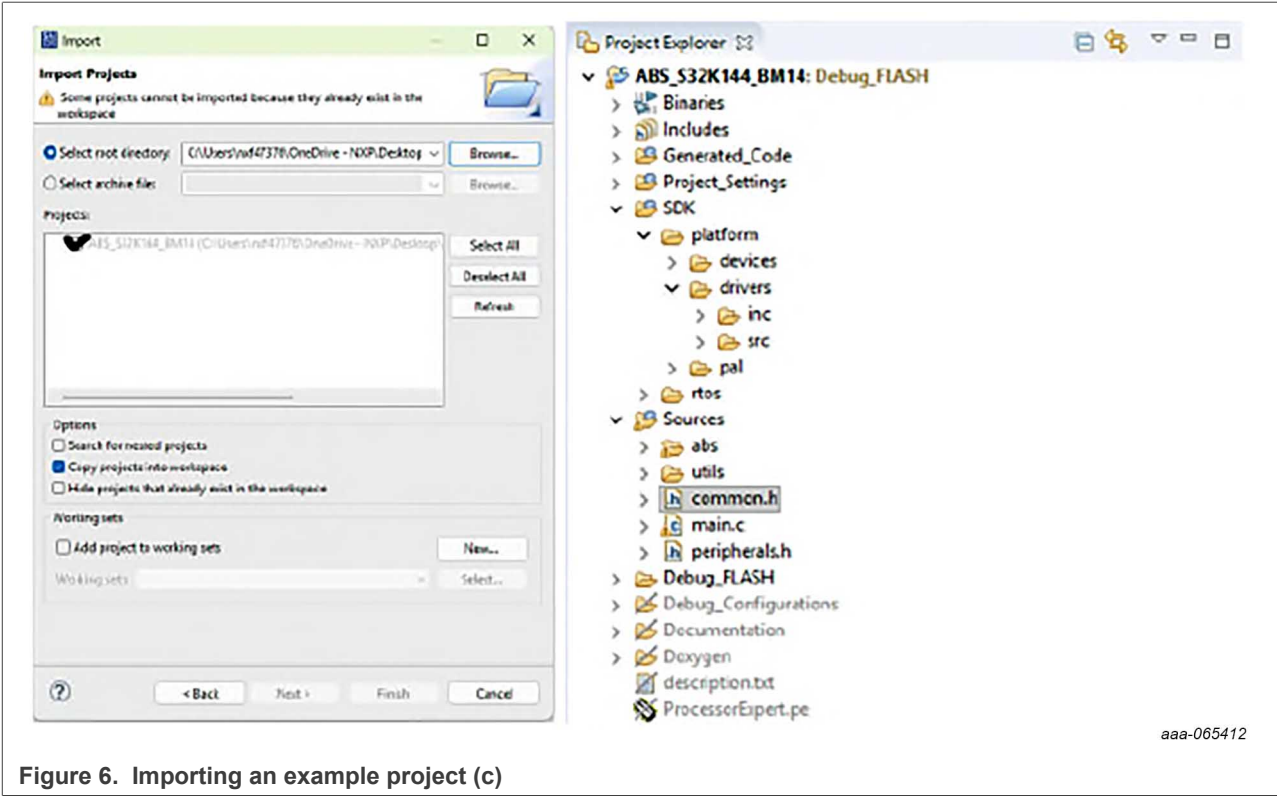

Figure 6. Importing an example project (c)
3. With the project loaded in the **Select root directory** box, select the **Copy projects into workspace** checkbox and select **Finish**. The project appears in the S32 Design Studio workspace, where you build and run it, as shown in Figure 6.